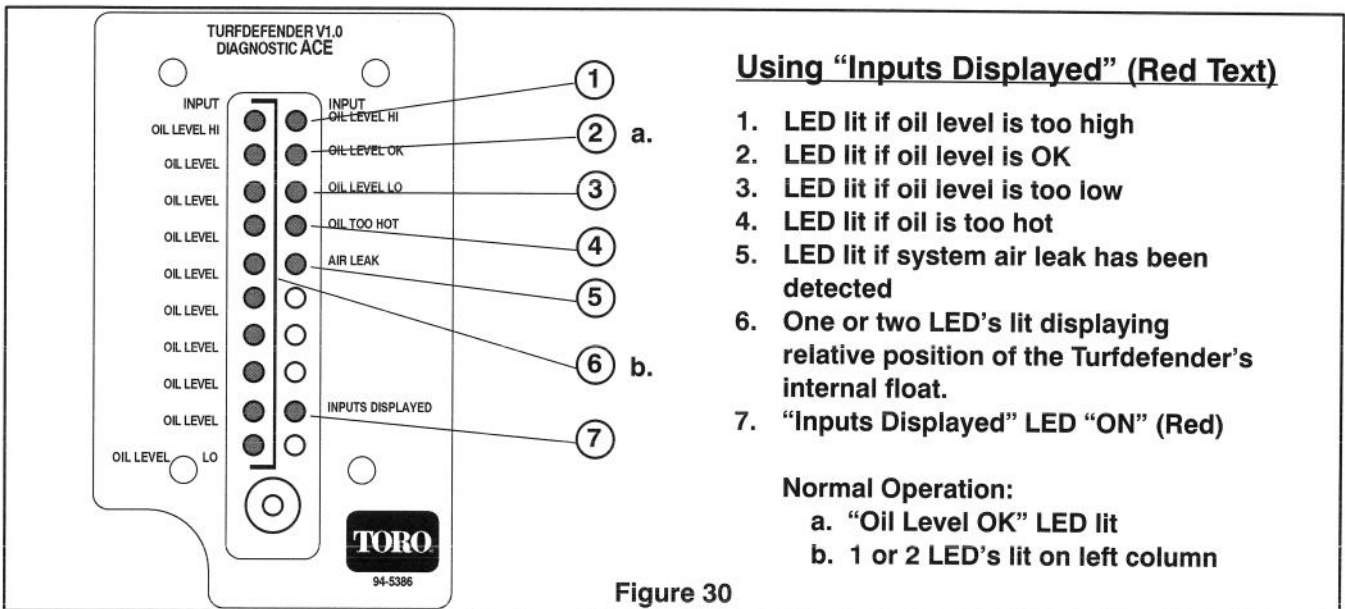

Figure 30
1. When the "Inputs displayed" LED is lit, the actual Float position (1 or 2 LED's on left row) and "Oil level OK" LED – should be displayed (Fig. 30).
1. When toggling "input", a LED should display (Fig. 30) any of the following problems diagnosed by the TurfDefender: